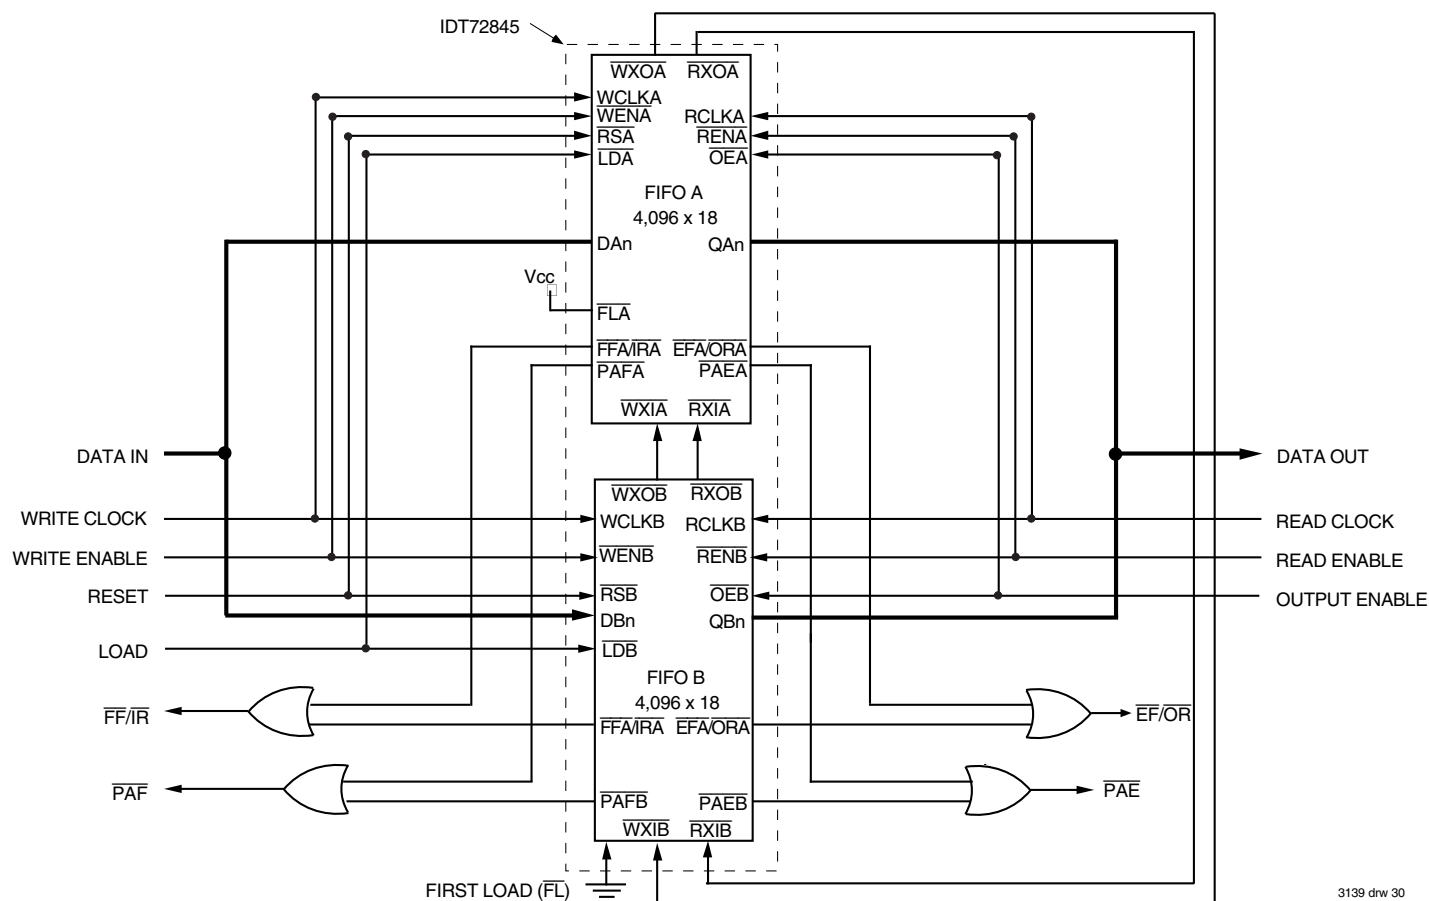

Figure 30. Block Diagram of 8,192 x 18 Synchronous
These devices can easily be adapted to applications requiring more than 256/512/1,024/4,096 words of buffering. Figure 30 shows Depth Expansion using one IDT72805LB/72815LB/72825LB/72845LBs. Maximum depth is limited only by signal loading. Follow these steps:
3. The Write Expansion Out ($\overline{WXO}$) pin of each device must be tied to the Write Expansion In ($\overline{WXI}$) pin of the next device. See Figure 30.
4. The Read Expansion Out ($\overline{RXO}$) pin of each device must be tied to the Read Expansion In ($\overline{RXI}$) pin of the next device. See Figure 30.